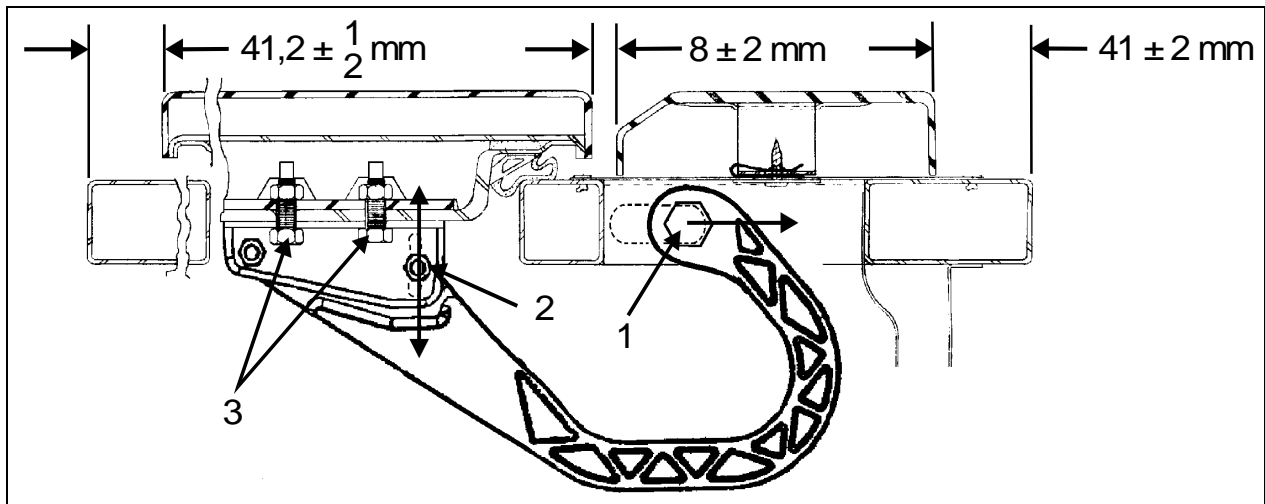

FIGURE 76: EVAPORATOR DOOR
4. Tighten nut (1, Fig. 76).
5. Loosen nut (2, Fig. 76). Hinge allows the door to be shifted "IN or OUT".
2. Loosen nut (1, Fig. 76).